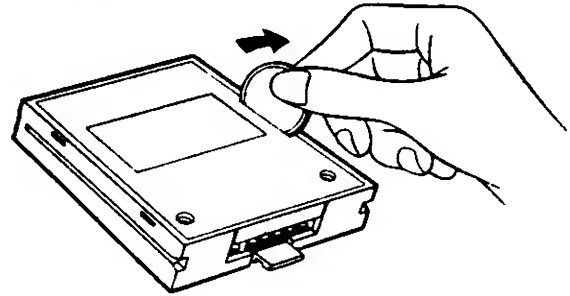

Figure 930-5 Removal of Battery Pack Cover
6. Insert a quarter into the slot, as shown in Figure 930-5, and gently pry off the top of the battery case.